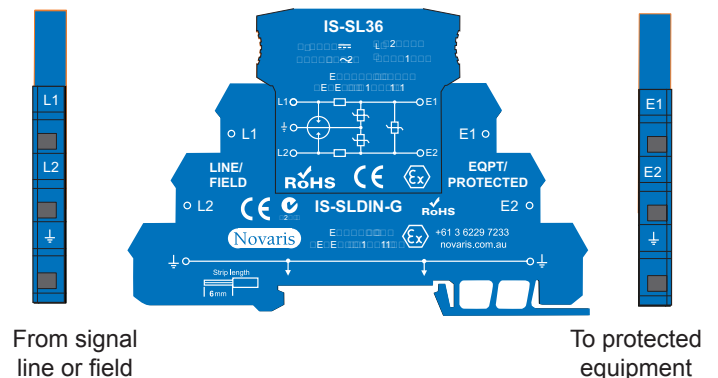

Figure 3: Signal line protectors are connected in series
**3.4 Wiring:** Incorrect installation of surge protection devices (SPDs) can render them ineffective. The Novaris slimline signal line protectors connect in line (Figure 3). These should be located as close as possible to the equipment requiring protection.